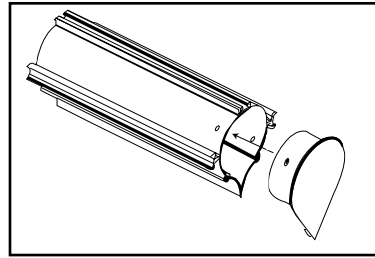

Fig. 11 Flange stop fits into one end of the rail and is attached with the bolts provided.
- Slide the flanged stop into the rail aligning the holes. See Fig. 11.